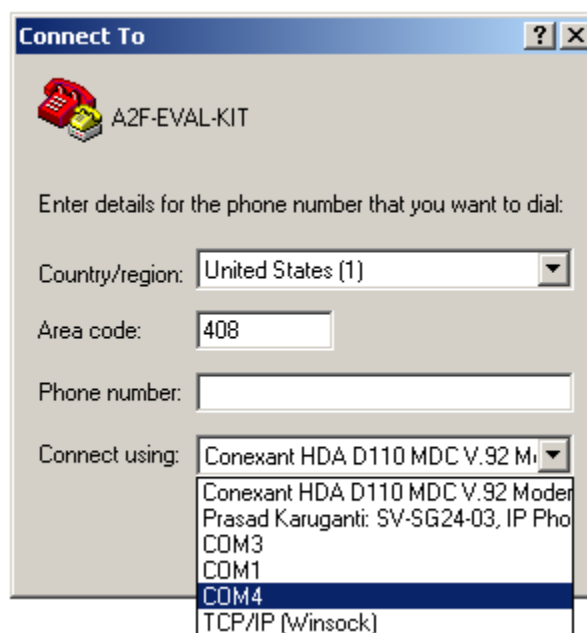

Figure 7 • HyperTerminal Port Selection
2. The Connect To window will open. Select the COM4 serial connection (Figure 7).